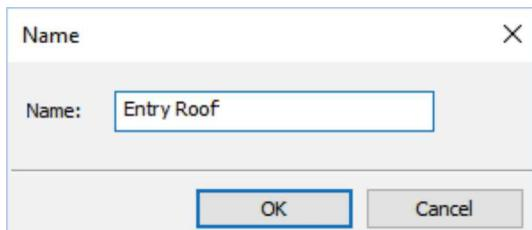

FIGURE 10-5.11 Family name prompt
31. For the family *Name*, type **Entry Roof** (Figure 10-5.11).